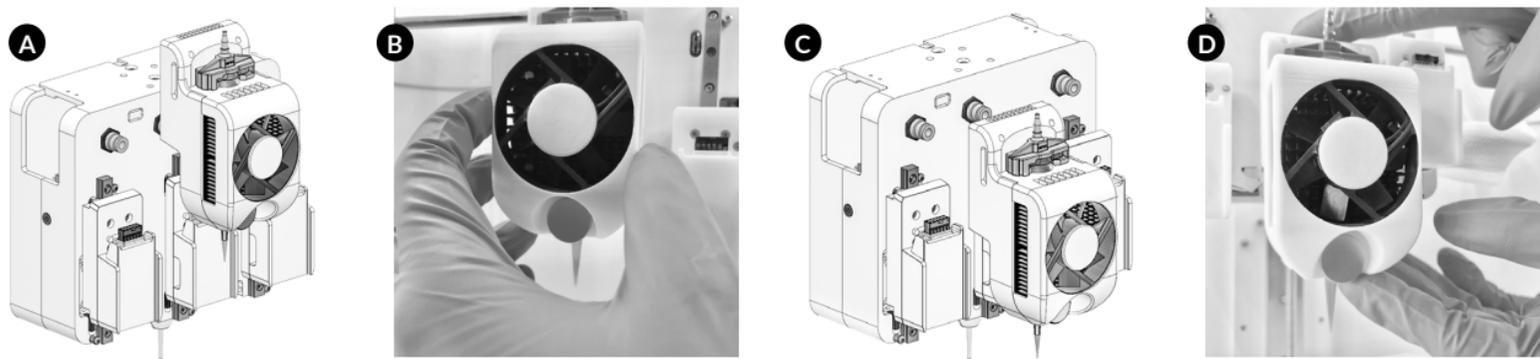

Figure 4: Inserting the Temperature-controlled Printhead into the BIO X system.
- To install the printhead, stabilize the bottom of the printhead mount with one hand to avoid straining the motor. Align the printhead above the desired printhead mount and push downward using your opposite hand (Figure 4).